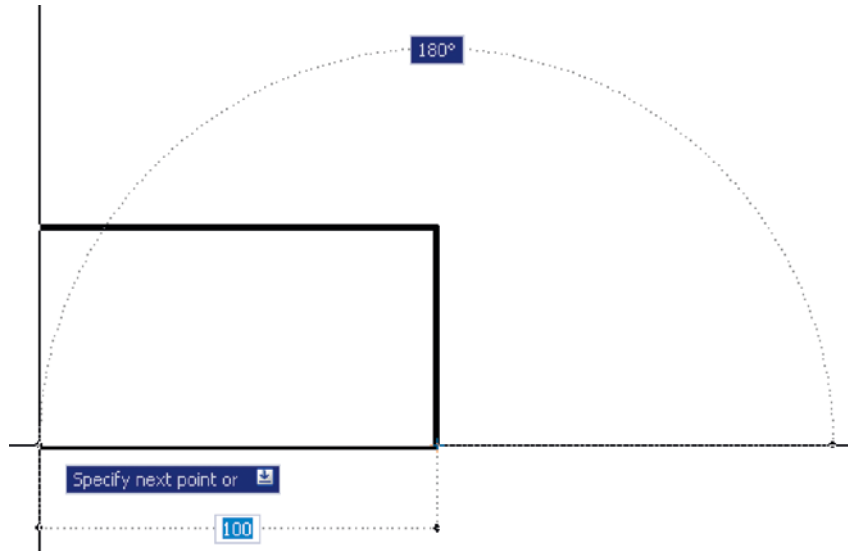

Fig. 3.31 Dynamic Input – first example – Polyline – the horizontal distance
- Drag the cursor to the left until the required horizontal distance is showing and *right-click* (Fig. 3.31).